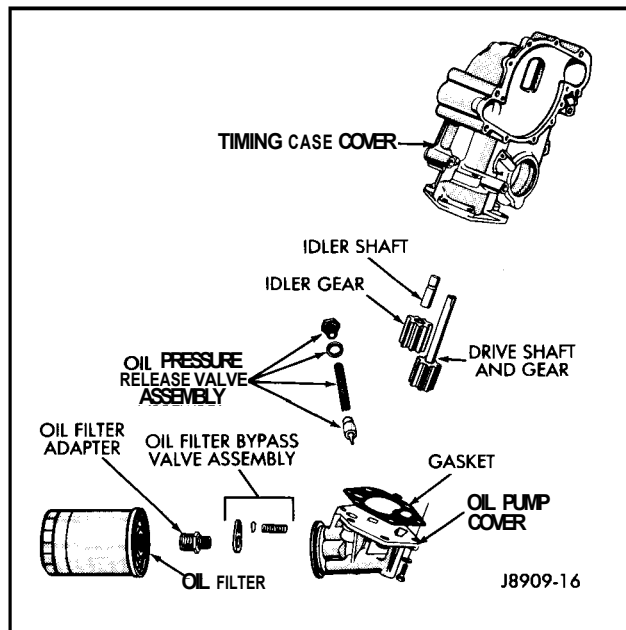

Figure 7-37
1. Remove the retaining bolts and separate the oil pump cover, gasket and oil filter as an assembly from the pump body (timing case cover) (Figure 7-37).
2. Install the idler shaft, idler gear and drive gear assembly (Figure 7-37).